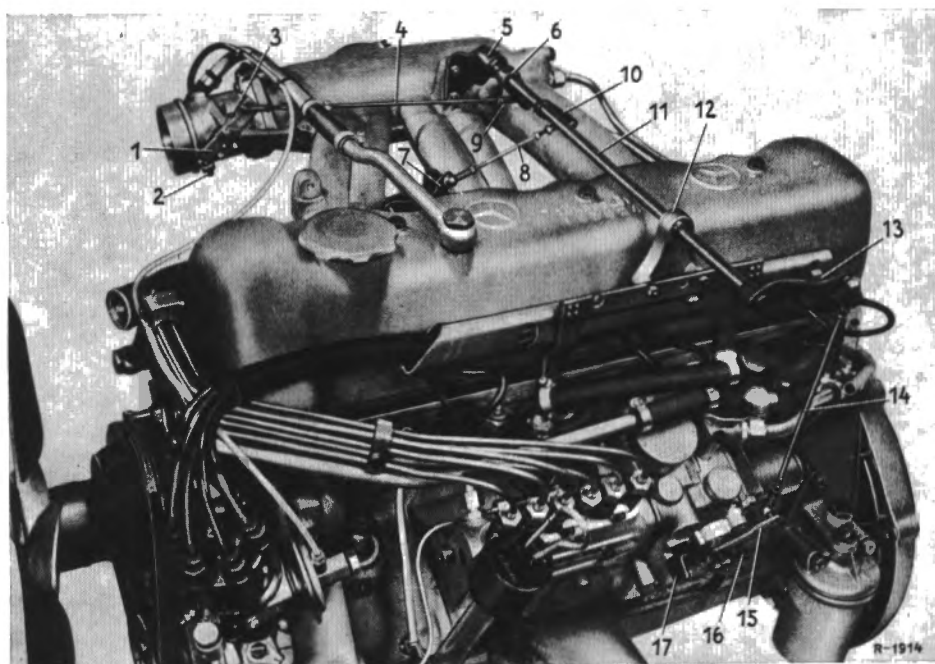

Fig. 00-16/1
Between the adjustment lever (15) on the injection pump and the throttle valve lever (1) on the venturi control unit there is a certain definite correlation which is of decisive importance for proper engine performance (Fig. 00-16/1).